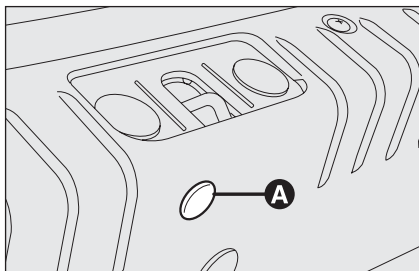
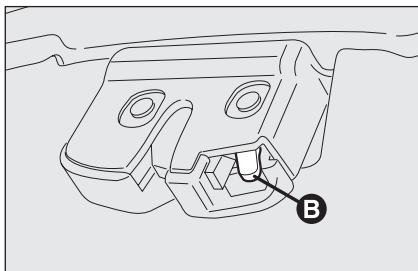

fig. 72
fig. 73
- working inside the boot, remove cover **A-fig. 72** and then operate lever **B-fig. 73**.